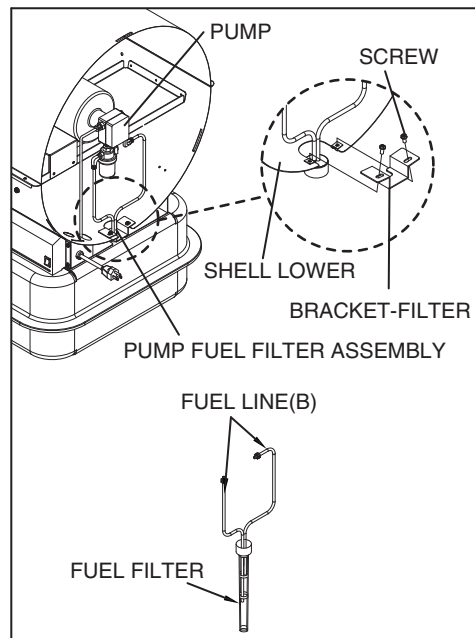

Figure 13. Remove Tank Fuel Filter
- Disconnect fuel line (B) from pump and pump fuel filter assembly with 3/8" wrench (See Figure 13)
- Connect fuel lines (B) to pump and pump fuel filter assembly.- Reinstall fan guard.